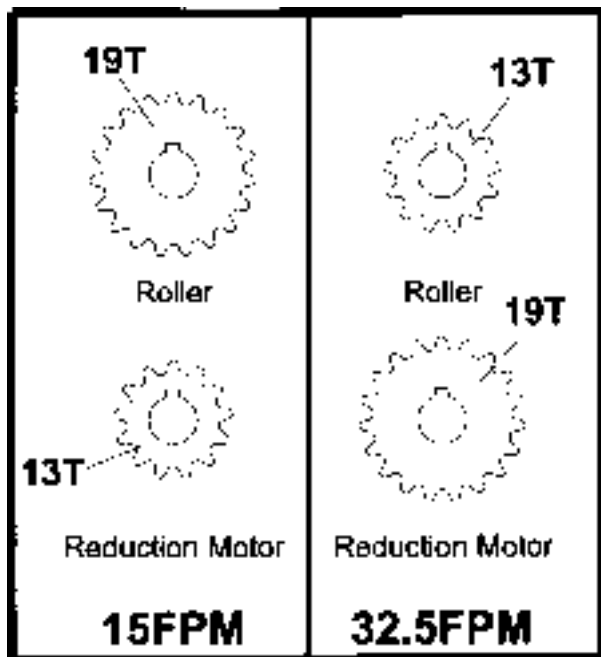

FIGURE 6
4. Remove the sprockets and chain together and position according to the required operation. See Figure 6.